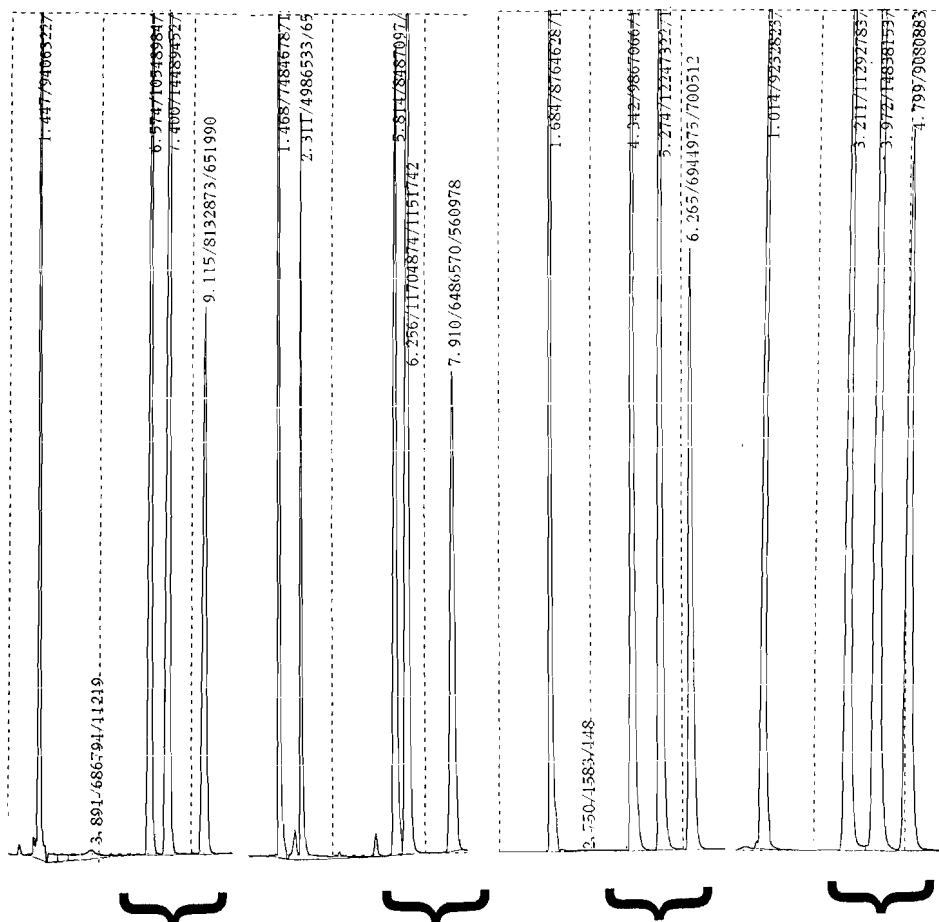

Figure 15-1. Separation of positional isomers in an acetonitrile/phosphate buffer on four different types of columns. Comment see text.
- Very important – buffers tend to even out the selectivity between stationary phases. The individual characters of the various phases are usually reflected in their polarity. This is partly lost through the use of buffers, particularly if acetonitrile is used as an organic solvent. Figure 15-1 shows the injection of uracil as a marker and 4-, 3-, 2-nitroanilines in an alkaline acetonitrile/buffer on four very different columns, see Table 15-1.